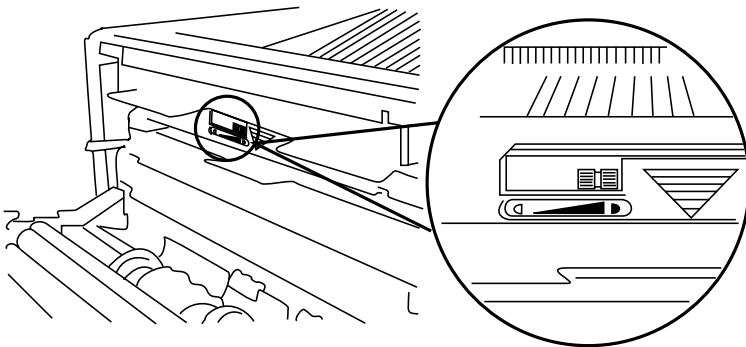

Fig. 2.8 *Adjust Print Density*
1. If the face-up output tray is installed, remove it. If the standard tray is open, close it. Push up the release button on the front to unlatch the front cover (fig. 2.8).